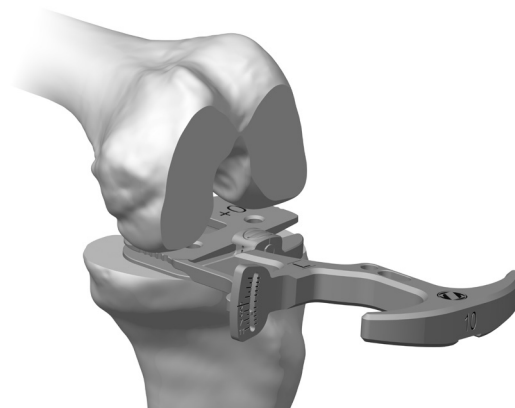

Fig. 33
- Remove the *Zimmer FuZion* Spacer Block from the extension gap. Disassemble the *Zimmer FuZion* +9mm Femoral Paddle from *Zimmer FuZion* +0mm Femoral Paddle. Bring the leg into 90° of flexion. Insert the *Zimmer FuZion* Spacer Block between the cut tibial surface and the uncut posterior condyles, as shown (Fig. 33).